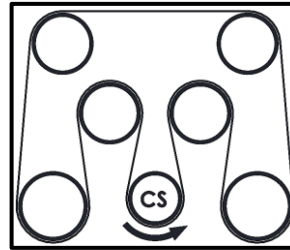

Figure 34 Drive Belt Routing
95. Slip the V-Belt back onto the engine pulley. **Ensure** that it matches [Figure 34].